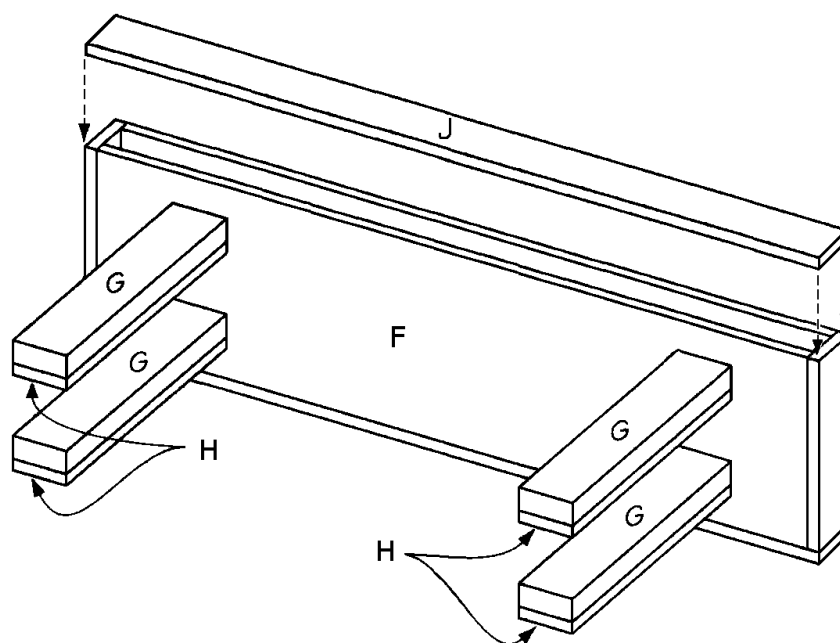

Figure 5
9. Place the two base top/bottoms (F) on their long edges on a level surface, parallel to each other and 2 inches apart. Use props under two of the leg support assemblies (G/H). Place one base side (I) over the 12-1/2-inch edges of both base top-bottoms (F), as shown in *Figure 5*. Apply glue to the meeting surfaces and screw through the base side (I) into the ends of both of the base top/bottoms, using four 1-1/2-inch screws on each joint.
10. Repeat Step 4 to attach the remaining base side (I) to the opposite ends of the two base top/bottoms (F).
11. Cut two base front/back (J) from 1 x 4 pine, each measuring 48 inches long.
12. Place one base front/back (J) over the base assembly, flush with the outer surfaces of the two base top/bottoms (F) and the two base sides (I), as shown in *Figure 5*. Apply glue to the meeting surfaces and screw through the base front/back (J) into the edges of the two base top/bottoms (F) and the two base sides (I), using 1 1/2-inch screws spaced 6 inches apart.
13. Turn the base assembly over and repeat Step 12 to fasten the remaining base front/back (J) to the other side of the base assembly.
14. Cut four small legs (K) from 1 x 4 pine, each measuring 3-1/2 inches long.
15. Cut four large legs (L) from 1 x 6 pine, each measuring 5-1/2 inches long.